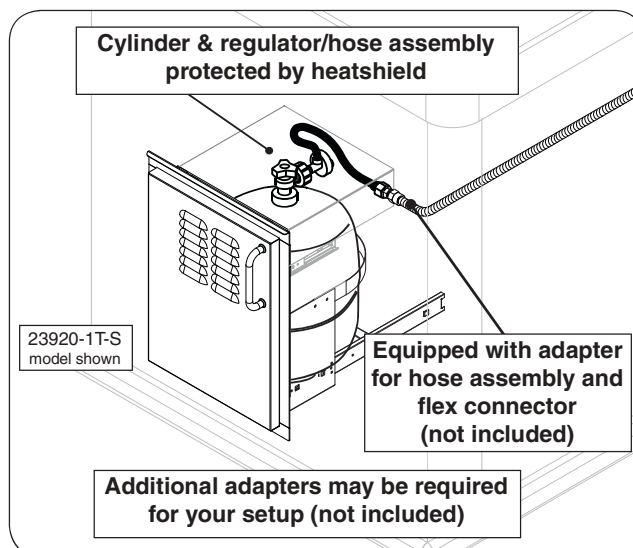

Fig. 11-3 Optional RHP door w/ tank tray
- **RHP offers propane tank door with tank tray models (PN 23920-1T-S or 25914-S) to meet the cylinder install requirements. See Fig. 11-3.**